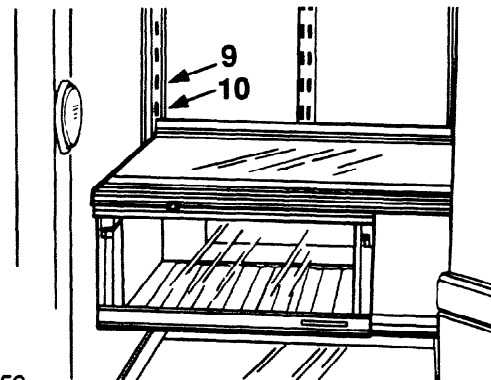

Figure 59
- g. Counting down from top slot of metal track on rear wall, use only slots 9, 10, 11, or 12 for new Deli Fresh Chiller position. Cold air supply tube **must** completely cover air inlet port on left rear refrigerator side wall. See Figure 59.